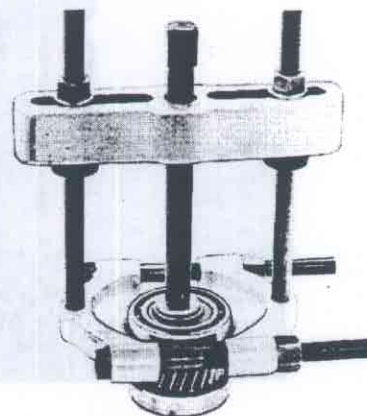

Fig 46-143 Removing the bearing
12. Pull the ball bearings from the gear with a bearing extractor, Fig. 46-143.